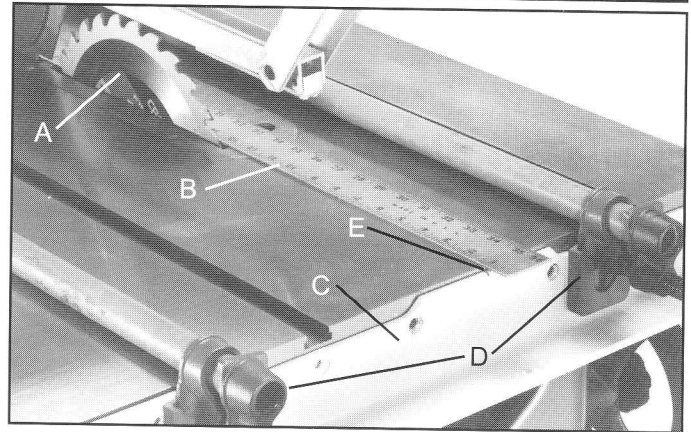

Fig. 15
1. Raise saw blade (A) Fig. 15. Place a straight edge (B) against the right side of saw blade extending out over the front of the saw as shown. Position front rail (C) against the edge of saw table and lightly clamp in place using bar clamps (D). Align notch (E) in front rail (C) with the straight edge (B) as shown. **NOTE: Any portion of the notch needs to align with the straight edge. Final calibration will be explained later.**